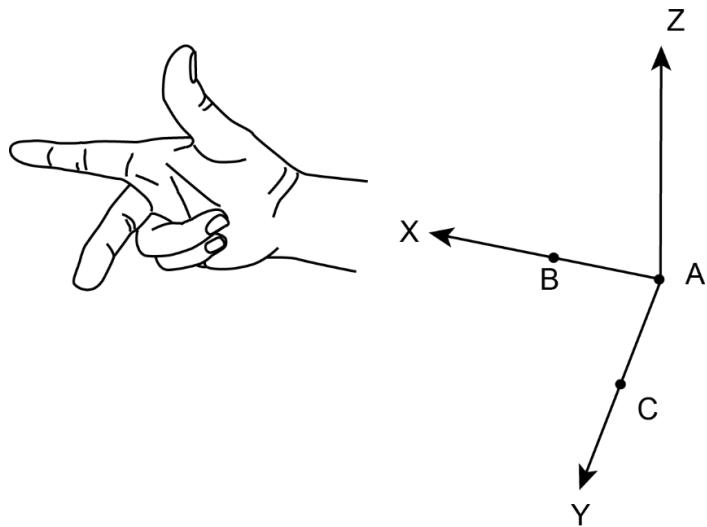

Figure 3.3 Area
- Area: User coordinate system is created by three-point calibration method. Move the robot to three points  $A(x_1, y_1, z_1)$ ,  $B(x_2, y_2, z_2)$ , and  $C(x_3, y_3, z_3)$ . Point A is defined as the origin and the line from point A to Point B is defined as the positive direction of X-axis. The line that point C is perpendicular to X-axis is defined as the position direction of Y-axis. And then the Z-axis can be defined based on the right-handed rule, as shown in Figure 3.3.